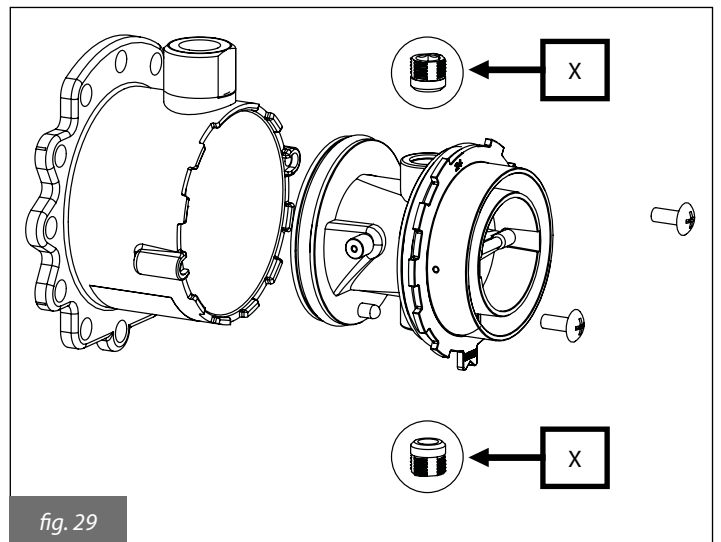
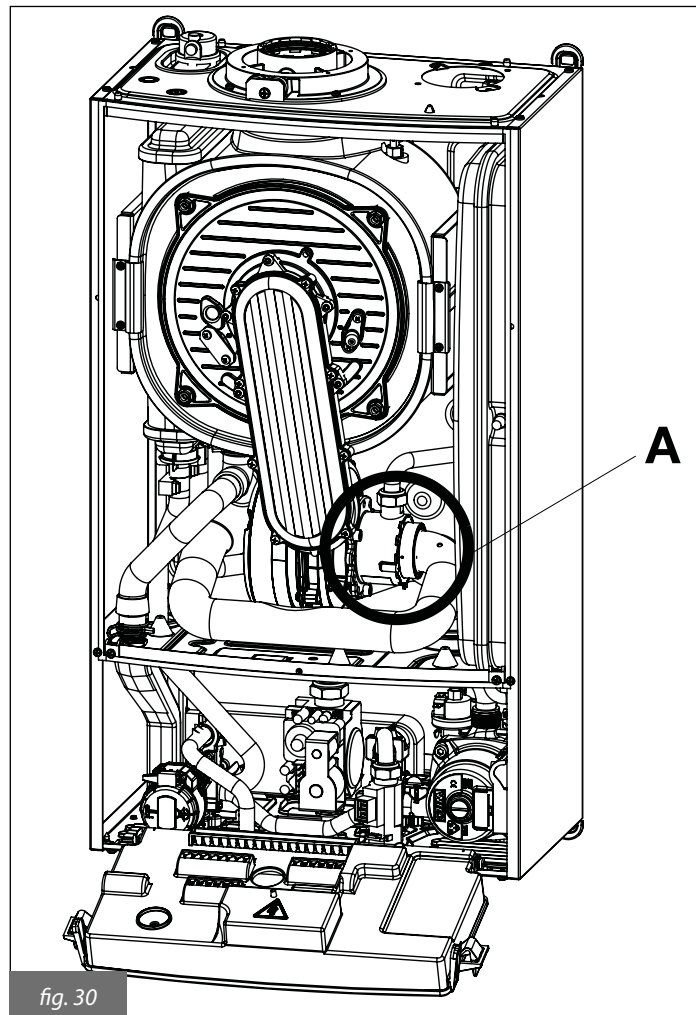

fig. 29
fig. 30
- Disconnect gas pipe from mixer (A, fig. 30) and open the mixer (fig. 29).
- Replace the nozzles in the mixer (fig. 29) with the ones for **PROPANE** (see tables 3, 4, 5, 6 and 7).
- Replace the nozzles in the mixer (fig. 29) with the ones for **NATURAL GAS** (see tables 3, 4, 5, 6 and 7).